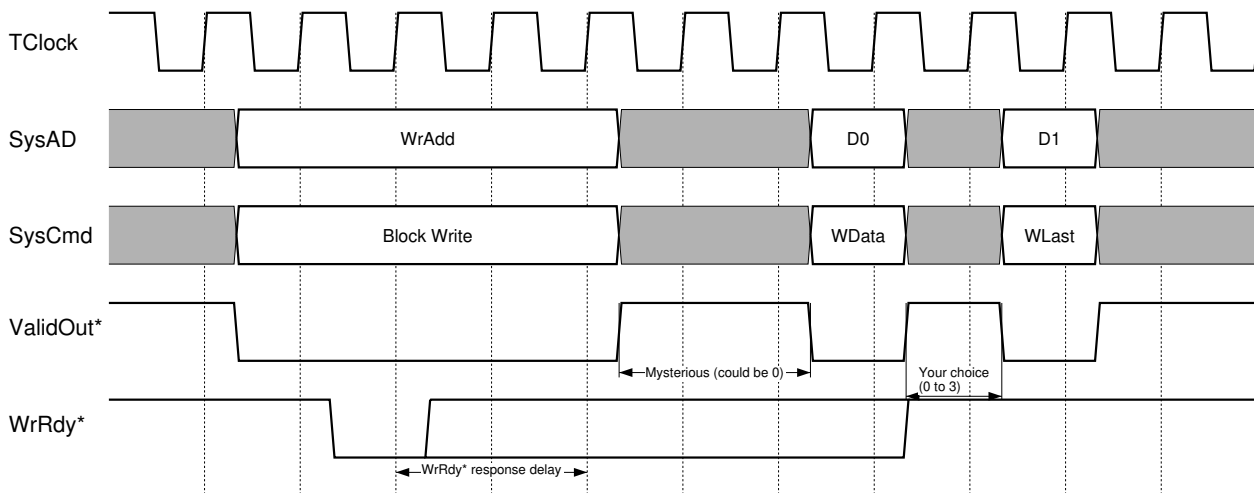

Figure 7.1 Structure of a write cycle
Figure 7.1 shows a 2-cycle (4-word) cache write burst, with *WrRdy\** used in the “pessimistic” manner (see §5.4 above):
- *Write to write timing*: Figure 7.1 shows that the signal *WrRdy\** is a don't care to the CPU from the point where it gets sampled active (allowing the write to issue) through to two cycles before the last data. From that point on, though, it must be in the correct state because its value can be sampled there and lead the CPU to decide whether or not to issue a subsequent write.